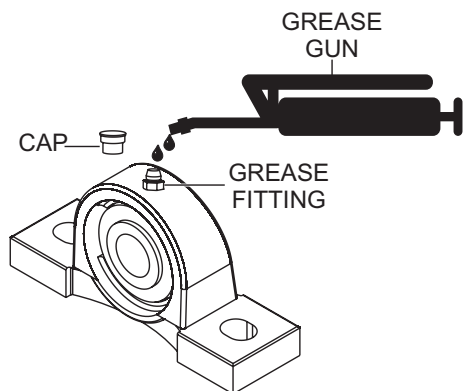

Figure 11. Bearing Lubrication
1. Each truss section has a set of pillow block bearings (Figure 11) that will require lubrication. Always make sure that the bearings are lubricated before each use of the screed. See maintenance section in this manual for bearing lubrication intervals.